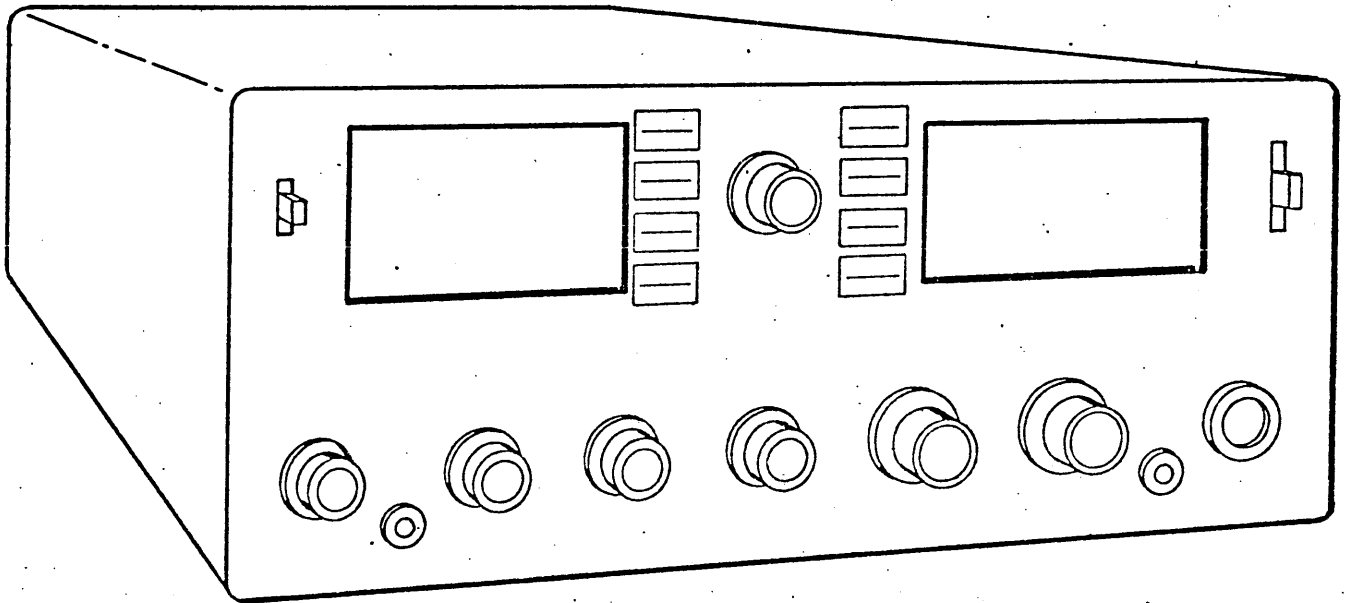

Figure 1-1. TM125 Overall Front View
a. GENERAL. The Sideband Transceiver, Model TM125 (Figure 1-1), is an eight channel transceiver covering the frequency range of 1.6 mhz to 26 mhz and having the capability of simplex or half duplex operation. The TM125 contains both a transistorized receiver section and a transistorized exciter coupled with a 12HG7 that functions as a broadband amplifier and two 6146B final output tubes in parallel to provide up to 125 watts peak output. Operating potentials for the TM125 are provided by built-in power supply circuitry.